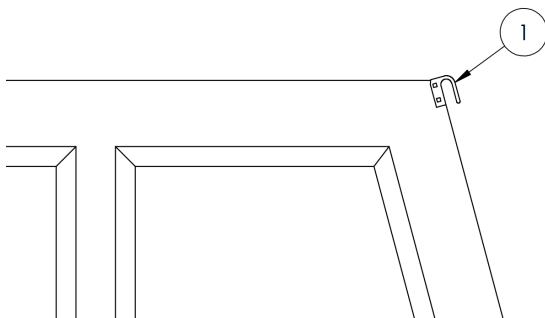

Figure 4.3
Bolt or weld two supplied rear tarp securement brackets (1) on top rear corner of dump bed as shown in Figure 4.3.